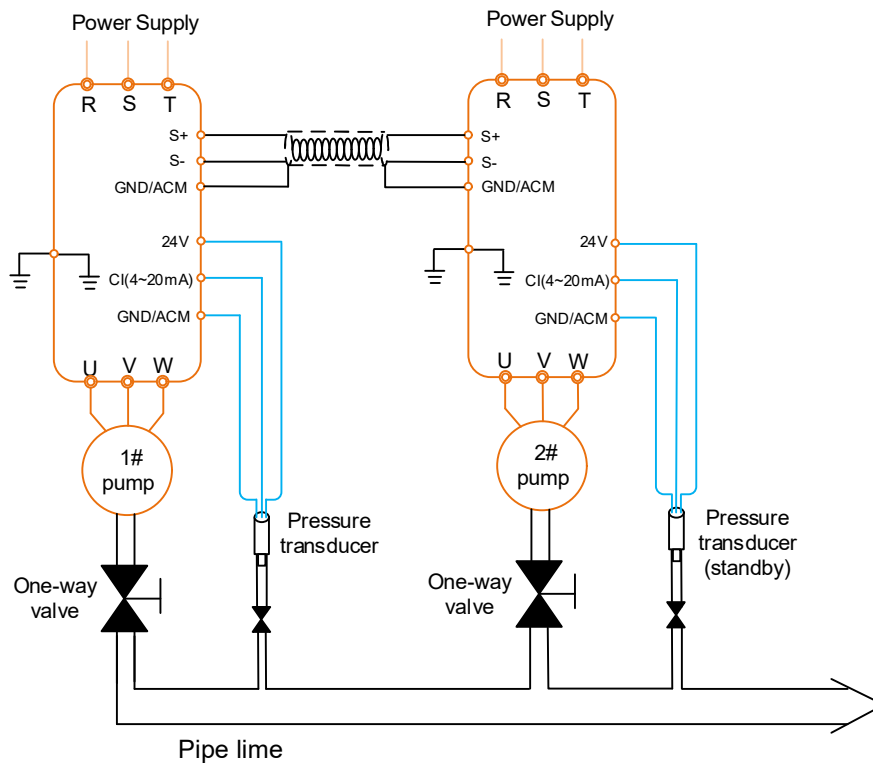
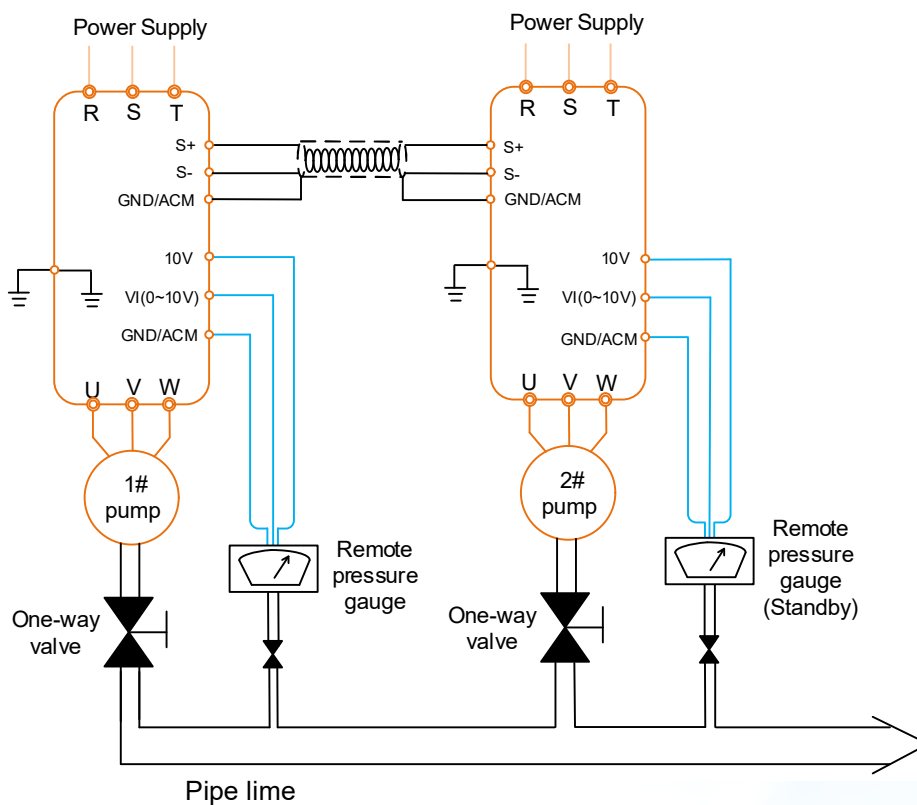

Fig 8.3 Connect with pressure transducer
Fig 8.4 Connect with remote pressure gauge
- ① Main circuit, please connect the power supply to R, S, T (Single phase please connect R, T), and output side please connect U, V, W with pump.
- ② Connect the pressure transducer or remote pressure gauge to ARA388/ARA386 correctly, please refer to Fig 8.3 and Fig 8.4 for details.
- ③ Connect the communication cables, please select shielded twisted-pair cable to connect the S+ and S- of the two inverters together.
- ① Set F0-00=0 (Manual operation mode) firstly, start ARA388/ARA386 and check whether the running direction of pump is correct. If the running direction is incorrect, change the value of F0-02 or change any two motor cables connection.
- ② Under manual operation mode, discharge the air inside the pump and pipe line.
- ① Set correct value in F0-04.
- ② Under manual operation mode, start ARA388/ARA386 and check whether the feedback pressure and real time display pressure on ARA388/ARA386 are the same. Long time press [▲] or [▼] to increase or decrease pump speed to check whether the feedback pressure is changed accordingly, if the feedback changes, it means the pressures transducer's wiring connection is correct (watch 1# pump).
- ① While start ARA388/ARA386 at the first time or forget some parameters, please set F0-24=1 to initialize the factory default value.
- ② Set parameters one by one based on the above mentioned parameters list, F1-01 ~ F1-04 parameters are only needed to set in master inverter, but for two master system, it needs to set the parameters both in 1# inverter and 2 # inverter..